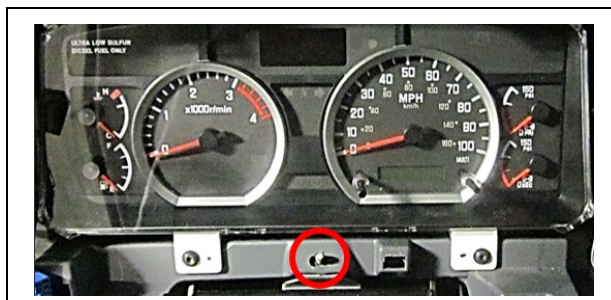

Figure 53
53. Remove the one (1) nut from the IP. (See Figure 53.)